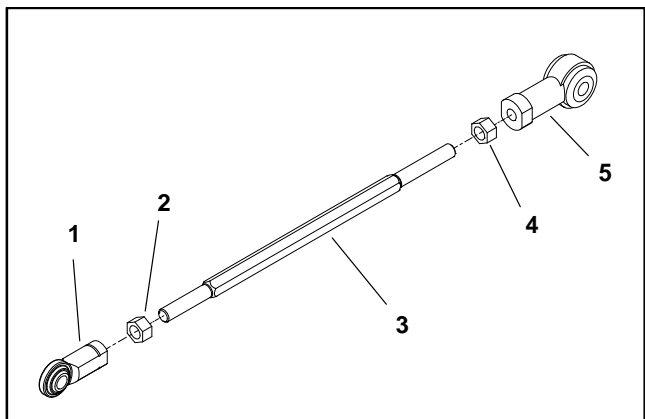

Figure 58
B. Adjust length of control arm (Fig. 58) until alignment pin can freely slide in transmission components. Tighten control arm jam nuts after adjustment. Make sure that control arm rod end and ball joint remain vertical and parallel after adjustment.